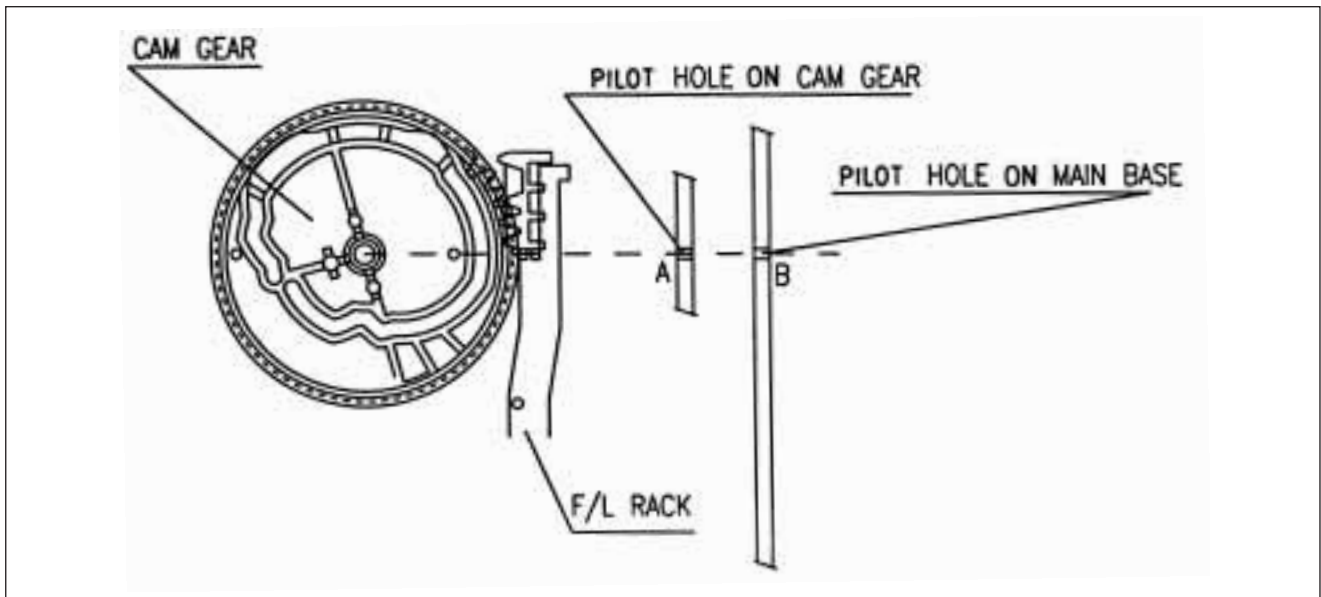

Fig. 1– Mechanical Checks/Cam Gear and F/L Alignment
5. Mechanical Checks/Gear Alignment (fig. 1, 2, 3, 4, 5)
1. Make sure that the pilot hole on the cam gear "A" is aligned with the hole "B" in the main base in the EJECT mode (fig. 1)